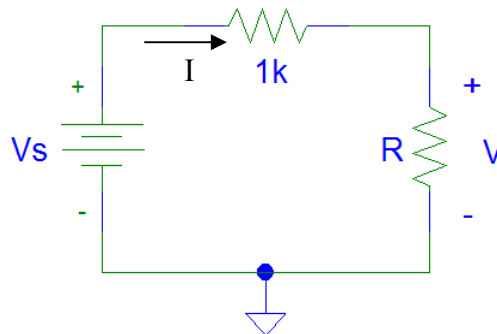

Figure 4 – Circuit to demonstrate Ohm's Law.
- Construct the circuit of Fig. 4. Use a resistor, R, of unknown resistance (obtained from the laboratory TA). Connect an ammeter to measure the current through R and a voltmeter to measure the voltage across R. Remember to connect the ammeter in series and the voltmeter in parallel. Be sure to use the DC setting on the meters.  $V_S$  is a variable voltage source